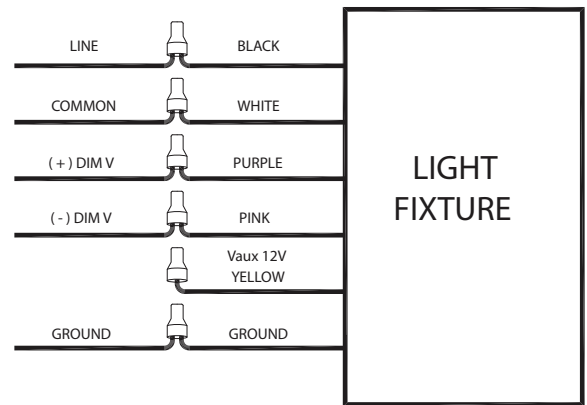

Fig. 6
6. Connect wires as shown in wiring diagram (Fig 6). Push all wires back into the **Splice Box**. Use appropriate UL-approved wire connectors as required by code to complete wiring. Be careful not to pinch wires. **WARNING: To prevent wiring damage or abrasion, do not expose wiring to edges of sheet metal or other sharp objects.**